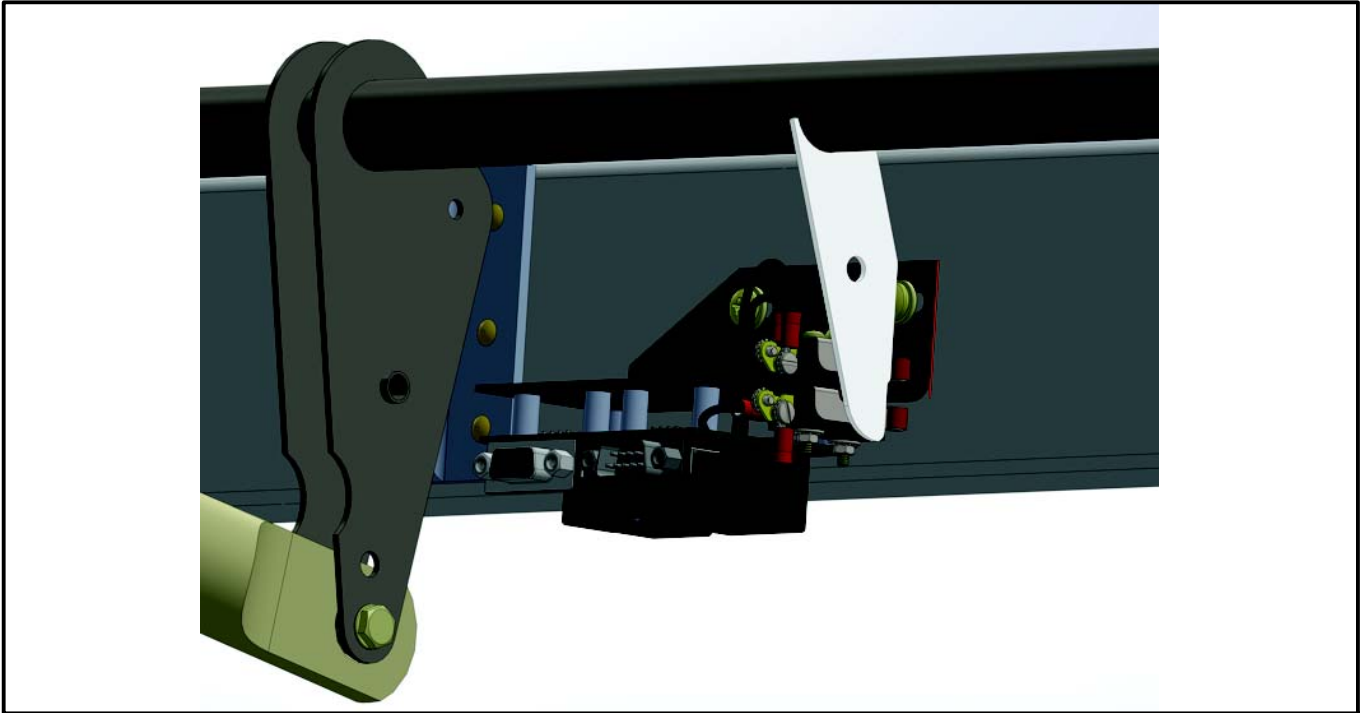

Figure SIM20-142-18 - FLAP PRESELECT POSITION
- 1.19. Re-install the flap actuator rod. (Refer to Figure SIM20-142-18.)